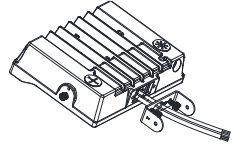
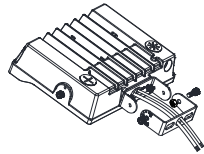

figure 2.1
figure 2.2
Step 2: Run the glue wire through the hole in the mounting bracket and secure the fixture and bracket with an inner hexagon screw (Watch out not to scratch the glue wire) (Figure 2.1), Tighten the other bracket with screws.(figure 2.2)